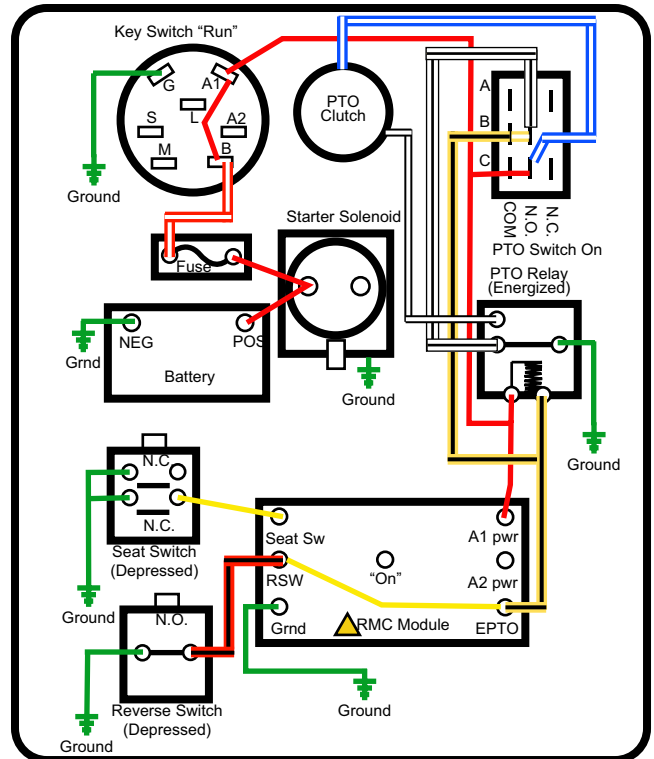

Figure 7.31
3. Once the PTO relay is energized by a ground path through one of the safety switches, it latches. See Figure 7.31.